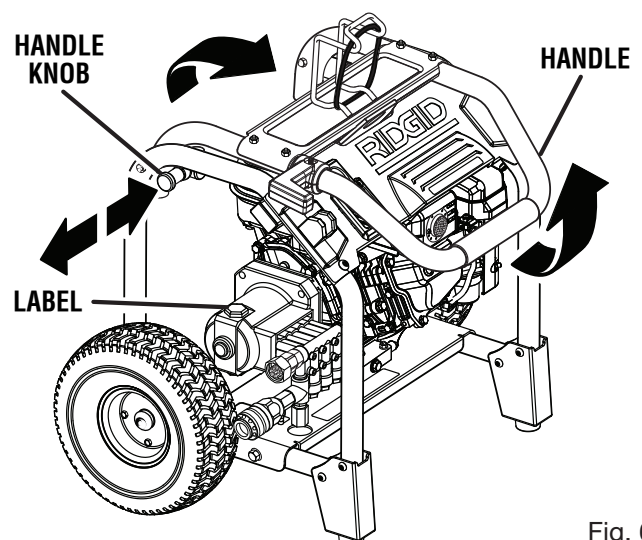

Fig. 6
See Figure 6.
- To lower the handle: pull the handle knob out then lower the handle to the position shown in figure 6.